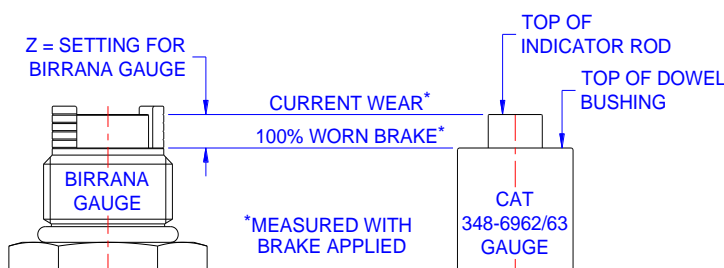

Figure 3
3. Measure the height from the top of the indicator rod to the top of the dowel bushing. Refer Figure 3. This height will be referred to as measurement 'Z'.
5. To correctly adjust the Birrana brake wear gauge, the setting height from the sleeve to the bottom of the slot = 'Z'. Refer Figure 3.